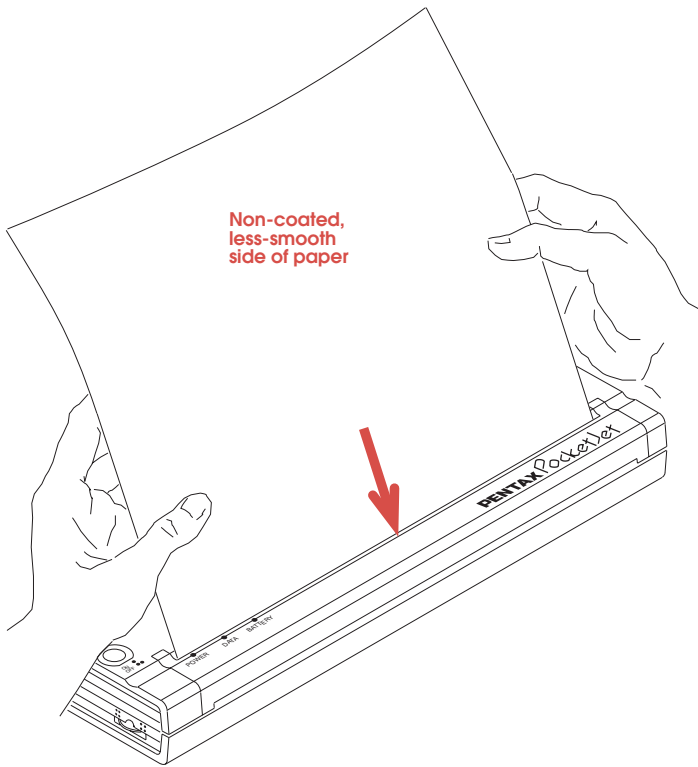

FIGURE 14. Inserting a sheet of paper.
- 4 Insert a sheet of thermal paper into the paper input slot. Place the print side of the paper away from you, so that it faces the rear of the printer. See Figure 14.